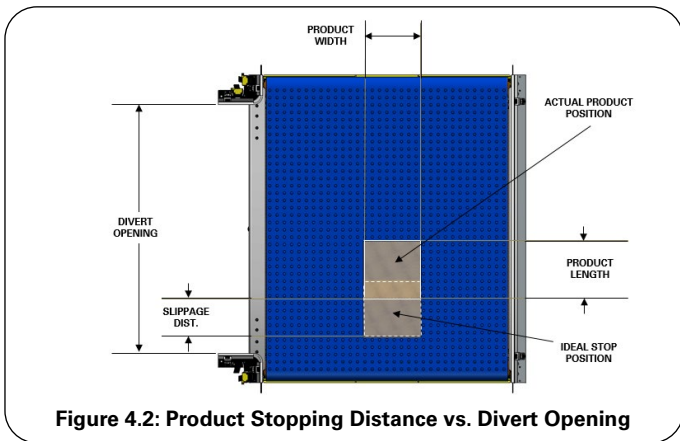

Figure 4.2: Product Stopping Distance vs. Divert Opening
- When diverting at 90 degrees, at the upper speed limits of the MDR, the divert opening must be a minimum of 210 mm larger than the longest product to be diverted. Refer to Figure 4.2. The length of Modsort module chosen should be maximized if possible, to permit the largest takeaway package width.
- The amount of product slippage on the belt must be considered and applied to the longest product to be handled (see figure 4.2).